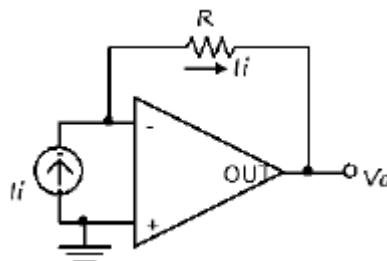

Figure 17.74: Current-to-Voltage converter
- Current-to-voltage converter is a transimpedance amplifier (Figure 17.74).